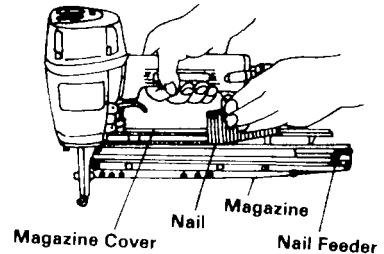

Fig. 6
- (2) Insert nails from above one group at a time using your hand to move them forward in the magazine. (See Fig. 6)
- (3) After inserting the nails, pull the nail feeder up in backward direction, remove it from the roll pin, move it slowly forward and push the nail.